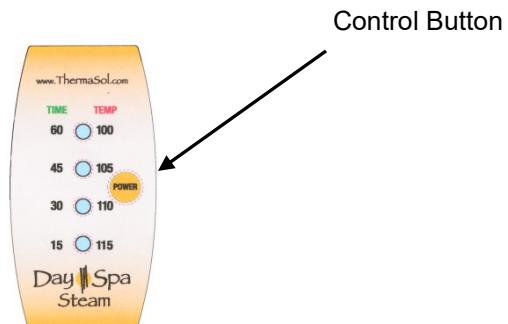

Figure 7
- 1. Starting Your Steam Bath.** Press the "Control Button" momentarily to activate your steam bath session. Your control will come from the factor with a default setting of 60 minutes at 100°F (to change these settings move to steps 2 and 3) once the button is pressed you will see a green LED appear indicating the time to be set, four seconds will pass and a red LED will appear indicating the temperature to be set. (**Figure 7**)